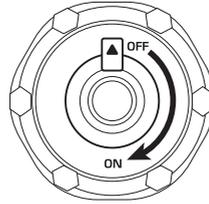

Fig. 1
3. Open the vent on the fuel cap to the “ON” position (Fig. 1).